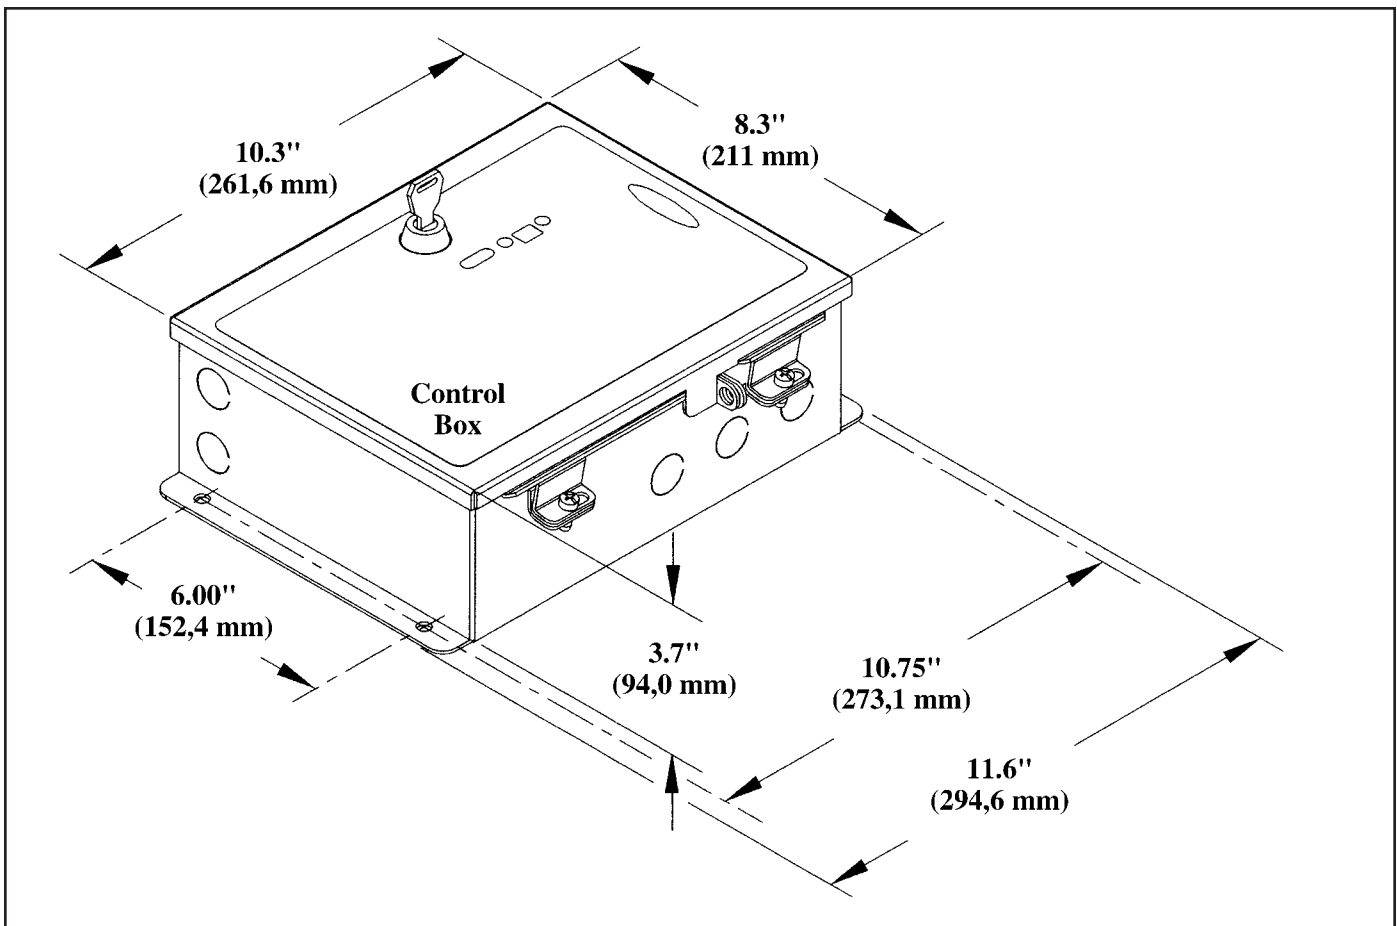
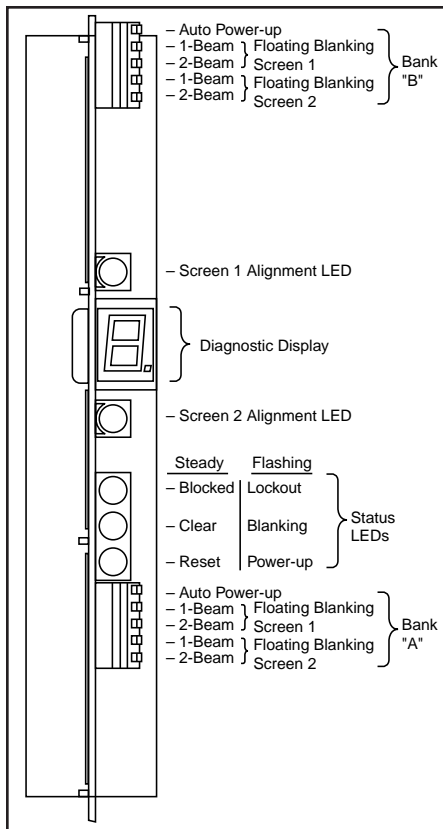

Figure 19. Control Box mounting hole locations
Figure 20. Controller configuration switches
Mounting hole information is given in Figure 19 (below). The MULTI-SCREEN Controller module must be configured *before* initial checkout and use. Controller configuration is done at the row of DIP switches along the edge of the controller module (Figure 20). The controller will automatically sense the length of the emitter and receiver, and set its response time accordingly.
Locate the floating blanking (FB) configuration switches in bank A and B (see Figure 20). Set the switches identically at banks A and B. Be aware of the difference in minimum object sensitivity, penetration factor, and required light screen separation distance between the settings (refer to Sections 2.1 and 3.2.1). Floating blanking causes the MULTI-SCREEN System to ignore multiple objects of up to the size listed in the table, below. *NOTE: Both 1 & 2 beam floating blanking switches set to "ON" will cause a lockout.*
Locate the Auto Power-up (AP) configuration switch (see Figure 20) in banks A and B. If Auto Power-up is "on" (switches pushed to the left) when power is applied to the MULTI-SCREEN System, the controller will automatically reset after conducting and passing an internal system checkout. If the switches are "off" (pushed to the right), this initial reset is manual (via the key reset switch on the front panel). Regardless of the setting of this switch, a *key reset* is always necessary to recover from an internal *lockout condition*. To select Auto Power-up, remove the protective coating on both switches and push them to the left ("on") position. The switches must be set identically at banks A and B.